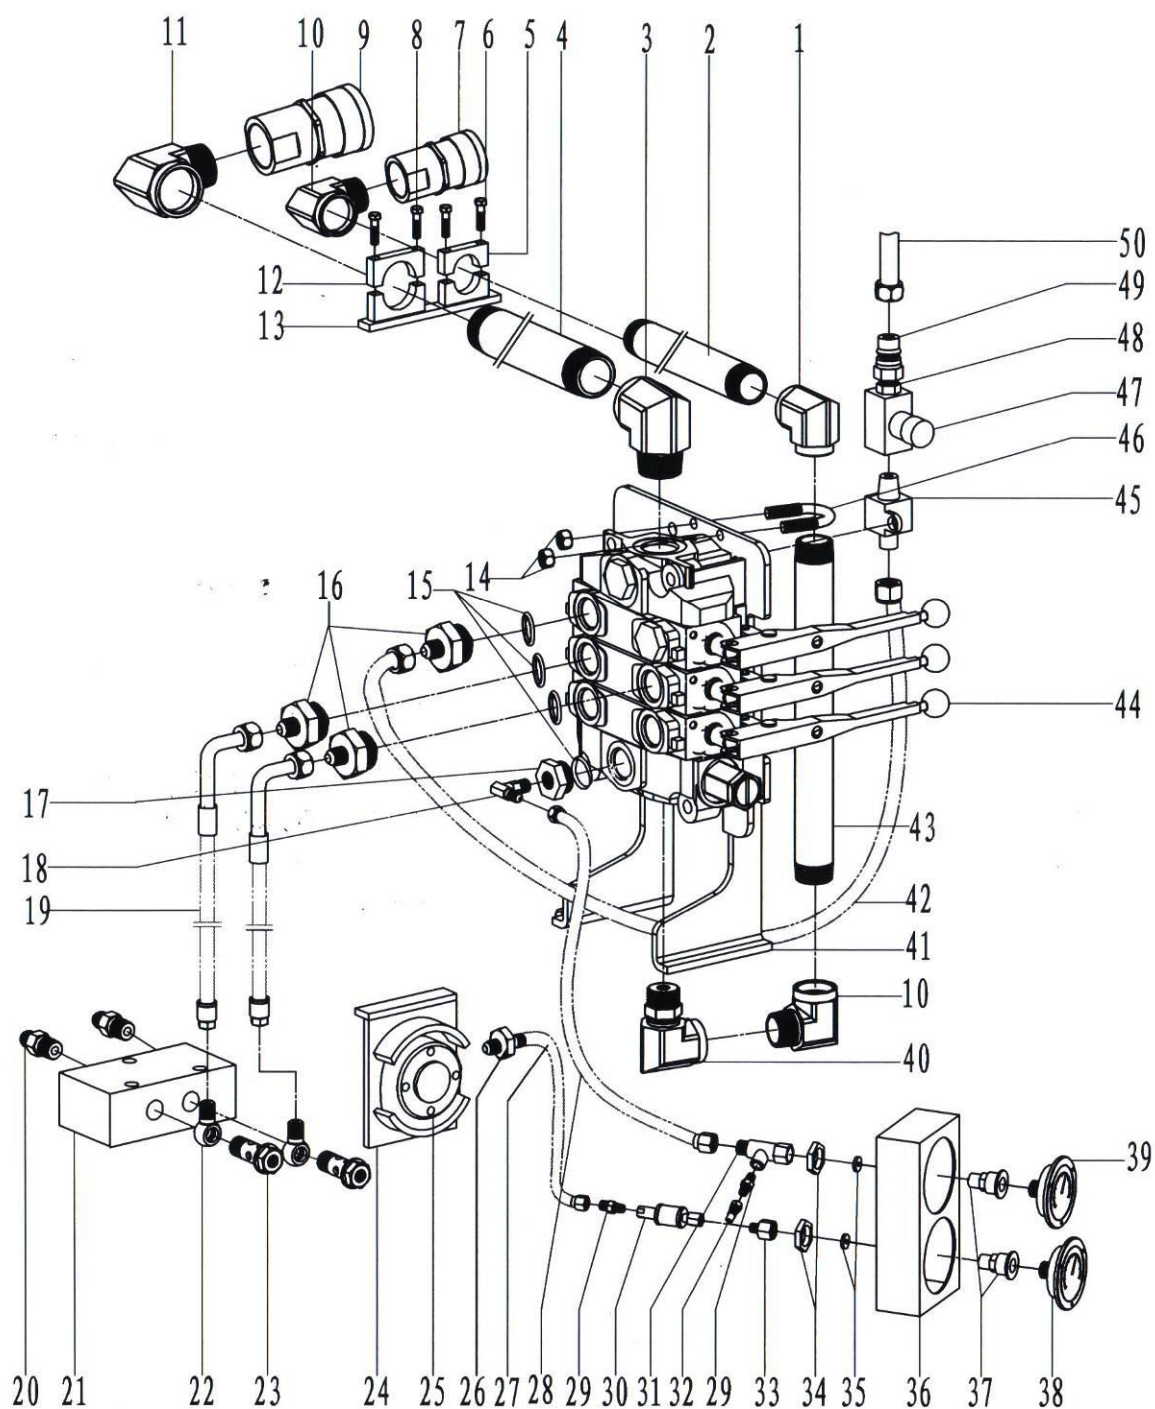

Fig. 22
7.1.15 Hydraulic valve bank assembly(Fig.22, Table.17)